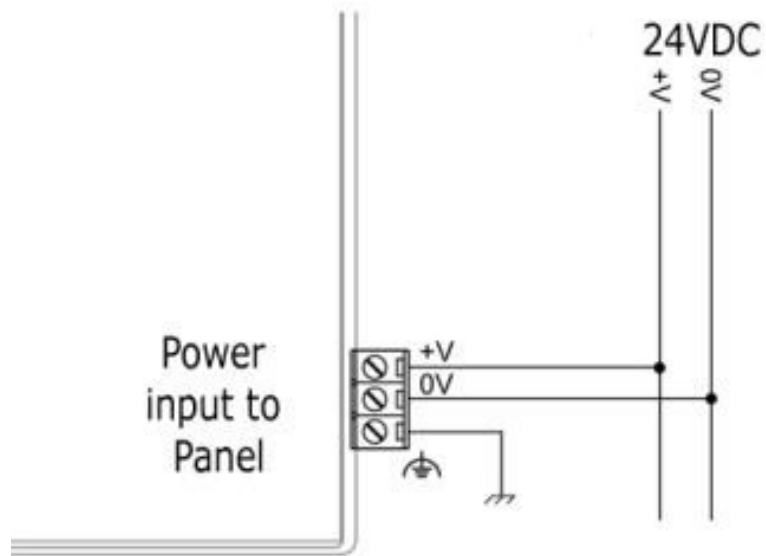

Figure 19. HMI Power Supply Connection
3. Connect the +V and 0V terminals as shown in Figure 19 & 20.